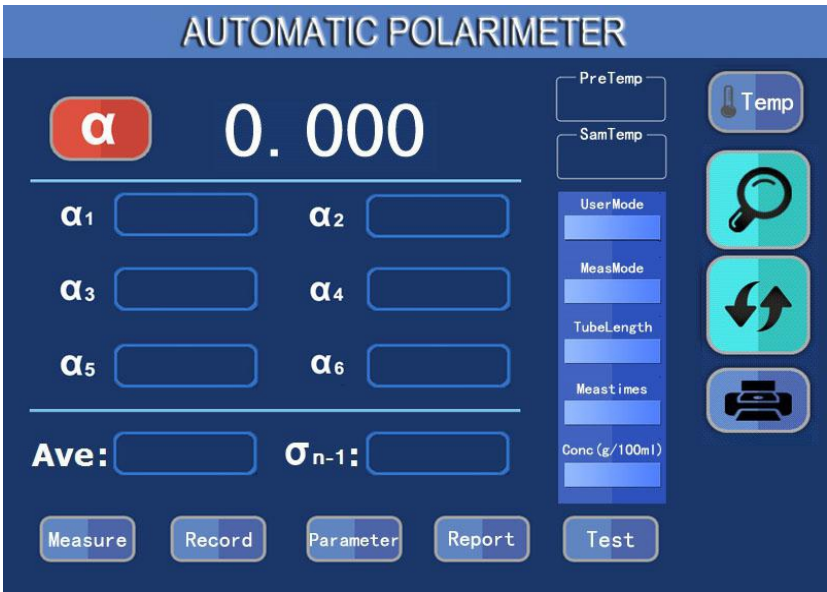

Figure 4
- 1) Press "clear" key to initialize the system, as shown in Figure 4.